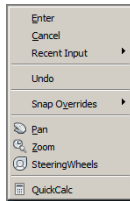

FIGURE 2.9 This context menu appears when you hold down the right mouse button longer than 250 milliseconds.
- Right-click again to repeat the last command, and then click two points on the canvas. Next, slowly right-click (holding down the right mouse button for longer than 250 milliseconds, to be precise), and you'll see the context menu shown in Figure 2.9. Left-click on the word Enter in this menu to complete the LINE command.